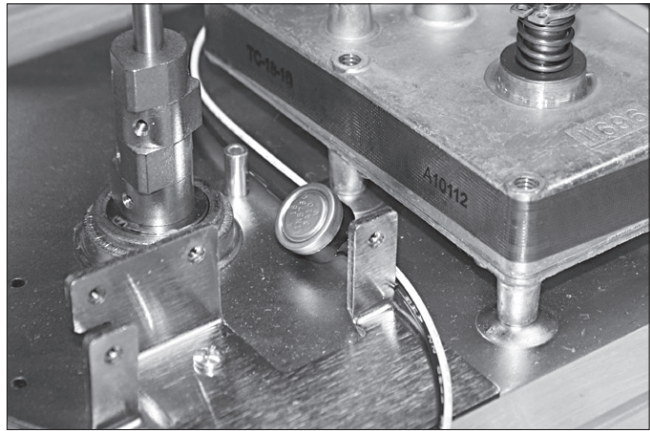

Figure 3. Wire Routing
7. Wrap wires and secure with cable ties as depicted in figure 3